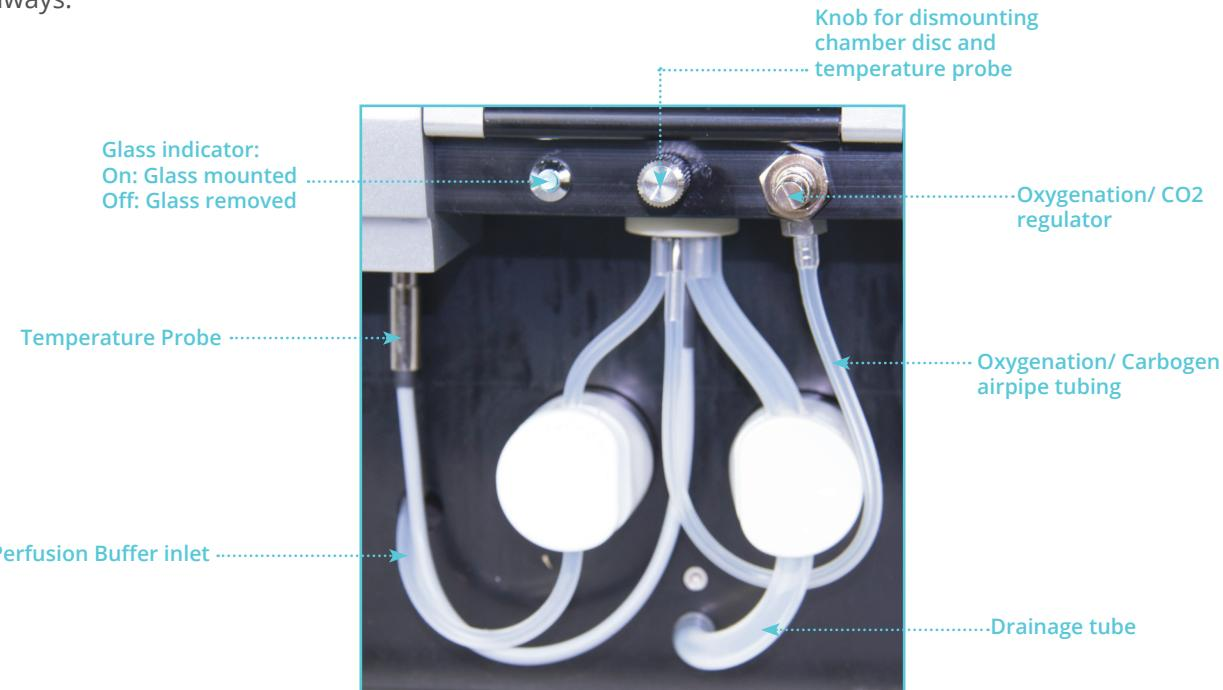

Figure 80: Tubes connected to the Chamber
- **The Perfusion Buffer inlet tubes** can be changed by unplugging the tubes from the bottle tops, then opening the chamber door and unplugging the tube from its port through. The new tube can then be pushed through from the top of the unit marked 1, 2, 3 or 4 and then plugged into its respective inlets as 1, 2, 3 and 4 as shown in the figure. Take great care in ensuring that the connections to buffer 1, 2, 3 and 4 are correctly secured as shown in figure 80.